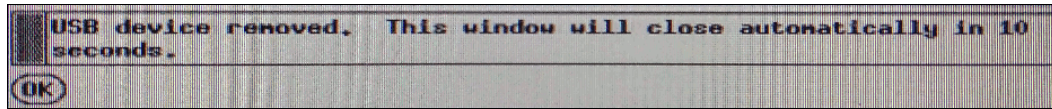

Figure 7-20 Removable media disconnected from HMC
8. You can now remove the USB flash drive. When disconnected, the HMC message advises you that the USB flash drive was removed (see Figure 7-20). Click **OK**.